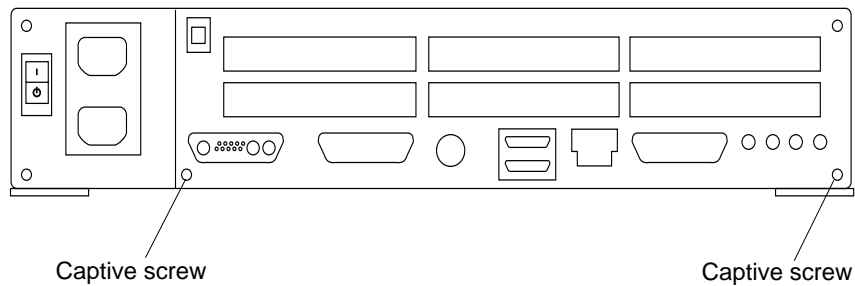

FIGURE 11-37 System Board Captive Screws
- 5. At the chassis rear, loosen the lower two captive screws (FIGURE 11-37).**